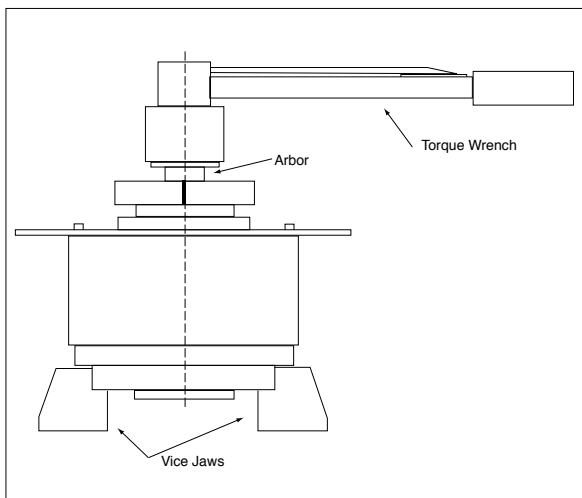

Figure 16 - Torque verification
E. For applications requiring a precise release torque, the release torque setting of the clutch should be tested as shown in Figure 16. Verification of the release torque several times in both clockwise and counterclockwise directions is recommended. This service is available at the factory.